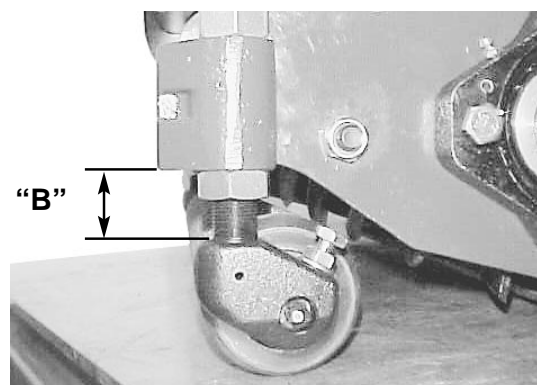

Figure 11
2. Set the front bracket height "B" using the approximate dimension given by Table 1. This measurement is between the bottom surface of the middle casting and the top surface of the rod casting (Fig. 11).
NOTE: For front roller distances ("B") greater than 38 mm, switch the long and short adjusting nut locations for better support (fig. 11)